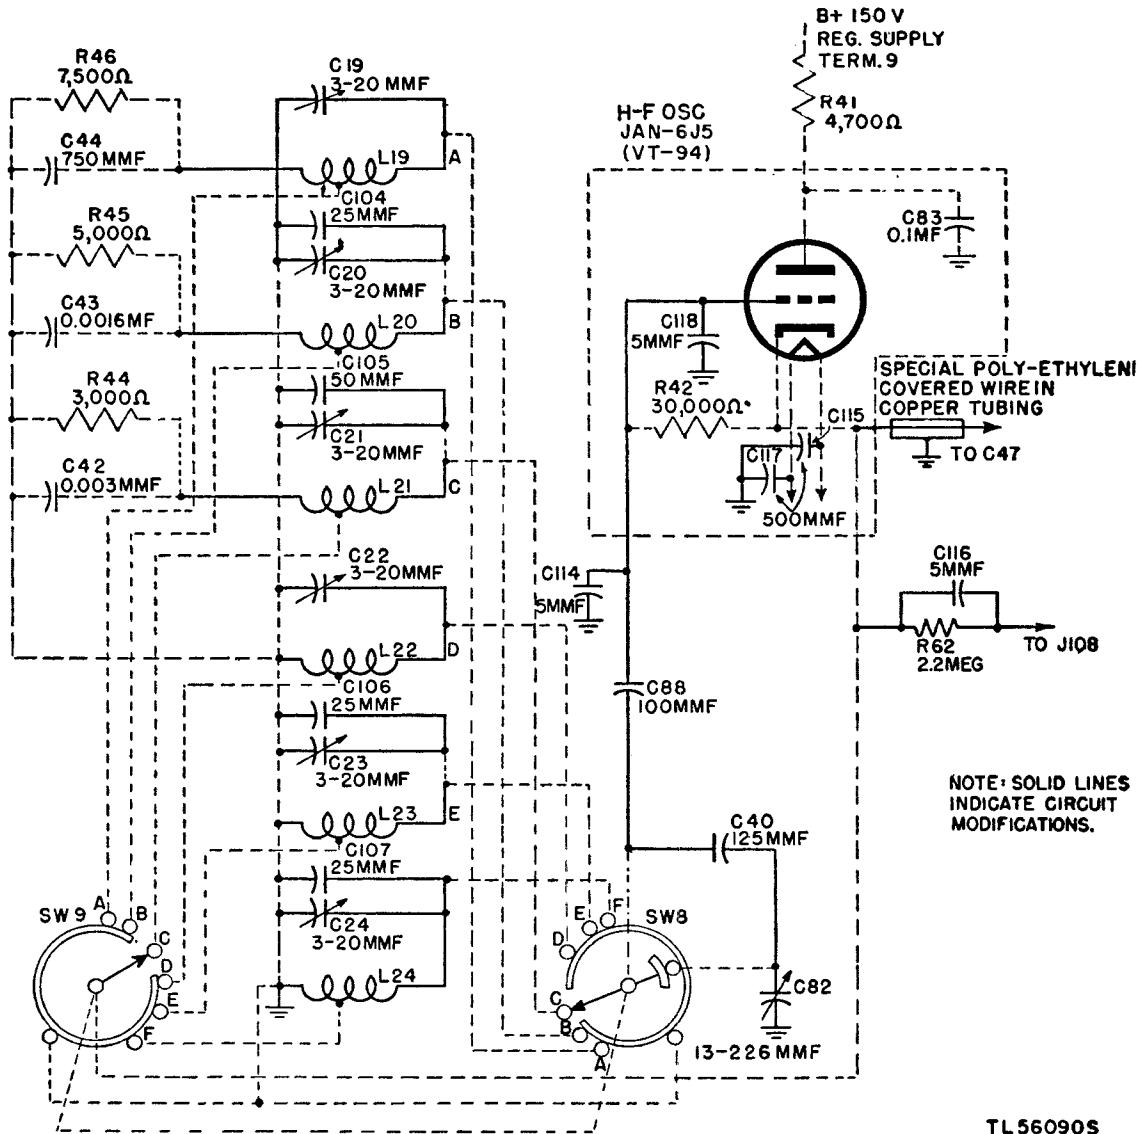

Figure 82 (Added). Channel A Receiver, h-f oscillator, schematic diagram.
a. Modification of H-F Oscillator Stage. The frequency stability of the h-f oscillator stage, a type 6J5 tube (V4), has been improved by the modifications shown by the solid lines in figure 82. The h-f oscillator, a type 6C5 tube, has been replaced by a type 6J5 tube. The variable grid-tuning capacitors connected across the coils on each band have been replaced with smaller variable capacitors of from 3 to 20 μuf . This reduced capacity has been offset by the addition of fixed grid-tuning capacitors C104 (25 μuf), C105 (50 μuf), C106 (25 μuf), and C107 (25 μuf) across the grid coils of bands B, C, E, and F, respectively. In Radio Receiver Assembly OA-65/MRC-2, the capacitors have zero temperature coefficients; in Radio Receiver Assembly OA-65A/MRC-2, the capacitors are temperature compensating types. The oscillator coils have been rewound to match the new circuit constants. Negative temperature coefficient capacitors C114 (5 μuf) and C118 (5 μuf) are connected from the grid of the oscillator tube to ground to compensate for variations in the grid circuit with temperature fluctuations. Capacitors C88 (in OA-